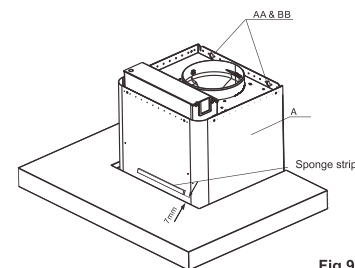

Fig. 9
5. Hook the hood body (A) onto the screws (AA and BB) mounted onto the wall and securely tighten the screws (AA and BB) to secure the hood body (A) on the wall. Peel off the backing and stick sponge strip to the front side of the fan housing as shown (Fig.9)